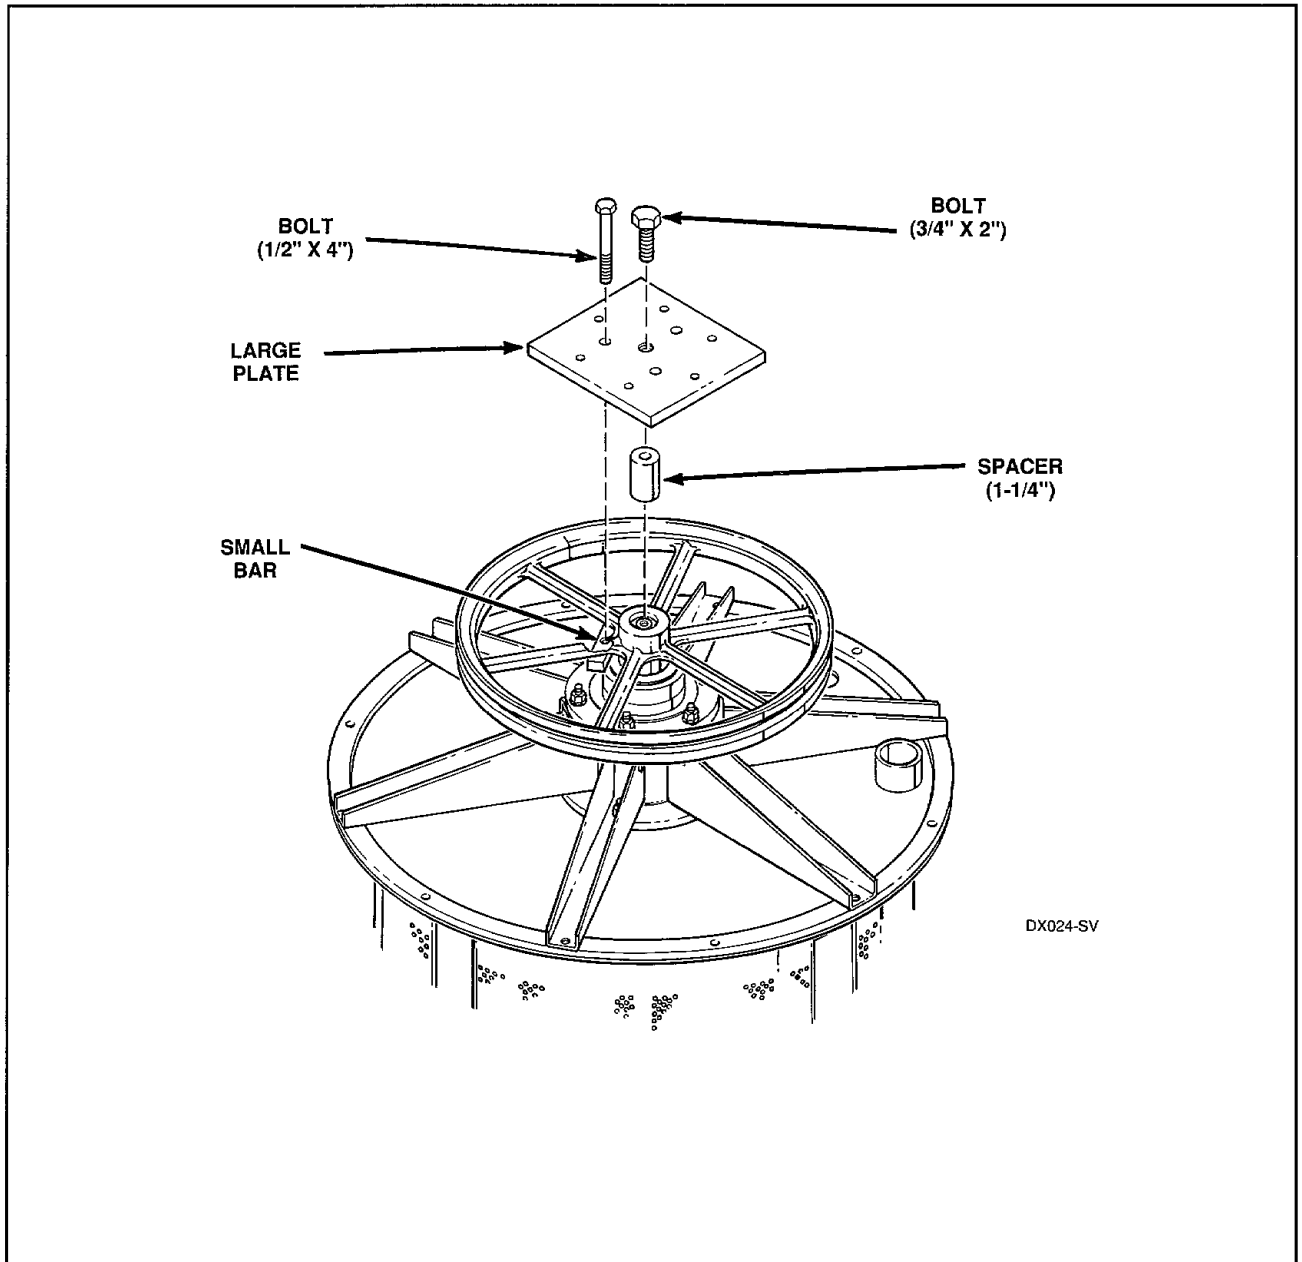

Figure 24
- b. Screw the $\frac{3}{4}$ x 2 inch bolt through center hole in large plate, *Figure 24*.
- c. Place the $1\frac{1}{4}$ inch spacer on the end of the cylinder shaft, *Figure 24*.
- d. Pivot the large plate, with the $\frac{3}{4}$ x 2 inch bolt, on top of spacer, *Figure 24*.
- e. Place one each of the three small bars behind two spokes each on the cylinder pulley. Insert the three $\frac{1}{2}$ x 6 inch bolts through the three center holes in the large plate and screw bolts into the three bars and snug up bolts, *Figure 24*.
- f. Alternately tighten the three bolts; pulling the pulley from the cylinder shaft, *Figure 24*.